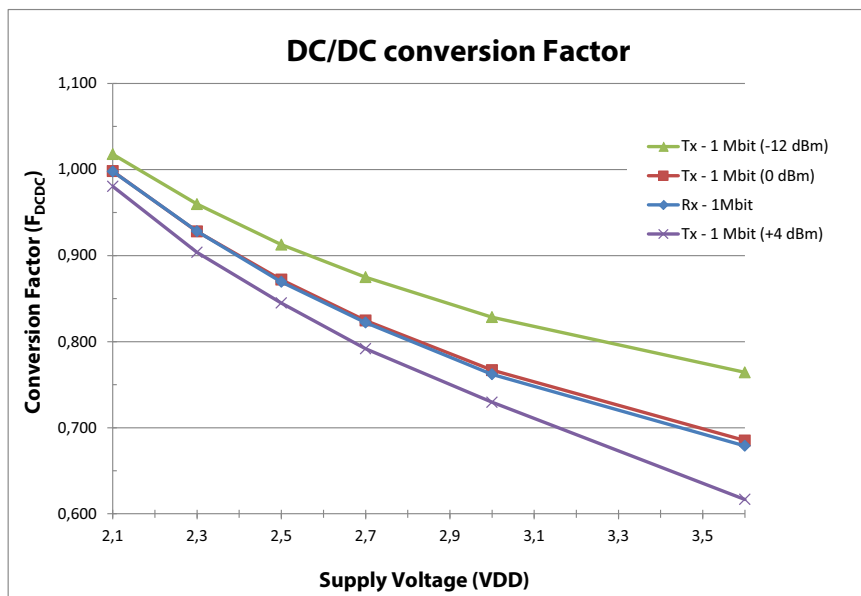

Figure 11 DC/DC conversion factor as function of VDD
4. F_{DCDC} will vary depending on VDD and internal radio current consumption (I_{DD}). Please refer to the *nRF51 Series Reference Manual*, v3.0 or later, for a method to calculate $I_{\text{DD,DCDC}}$. See **Figure 11** on page 50 for a DC/DC conversion factor chart.